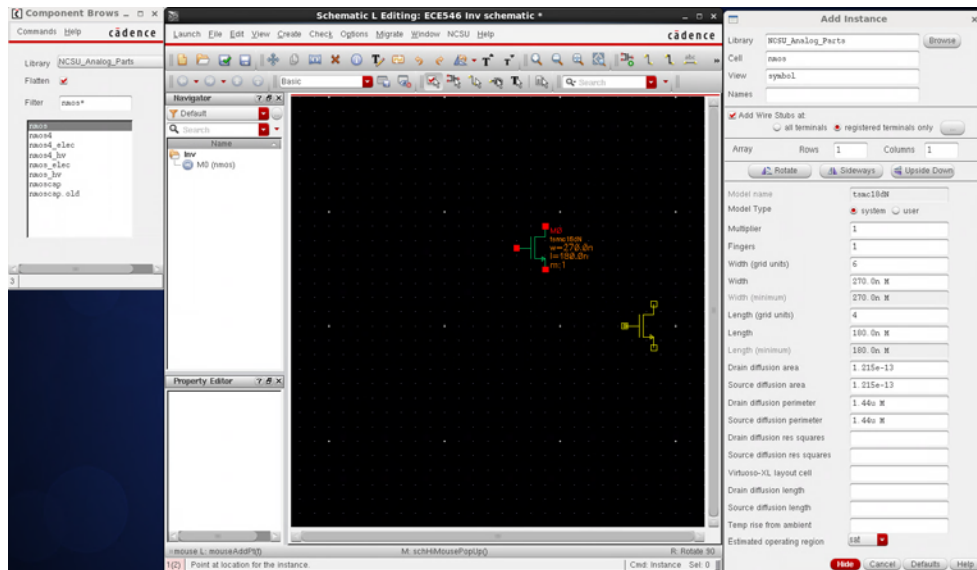

Figure 6. Window view for step 8
8. On the '**Add Instance**' window, click '**Browse**' and a new window will pop up as shown in Figure 6. Choose "**NCSU\_Analog\_Parts**" as the library and '**nmos**' as the cell, '**symbol**' as the view. Next, go back to the schematic window and click anywhere of the empty space; an nmos transistor symbol will be added. You can press '**ESC**' to cancel the add instance command. Please use the same method to add a pmos transistor with minimal length and width.